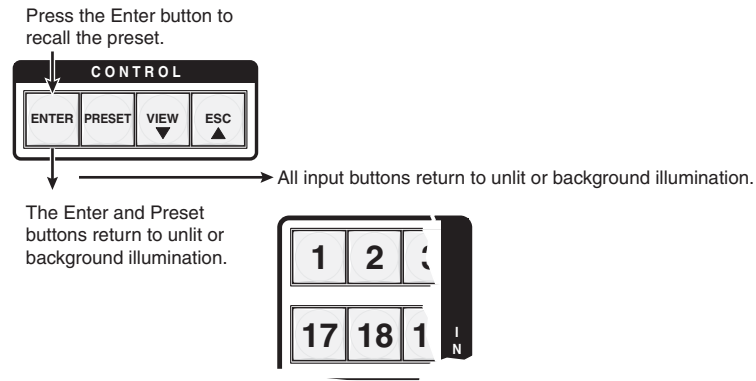

Figure 3-47 — Press the Enter button
4. Press and release the Enter button (figure 3-47). The configuration stored in selected memory location is now the current configuration and can be viewed in the *View-Only* mode (see example 4).